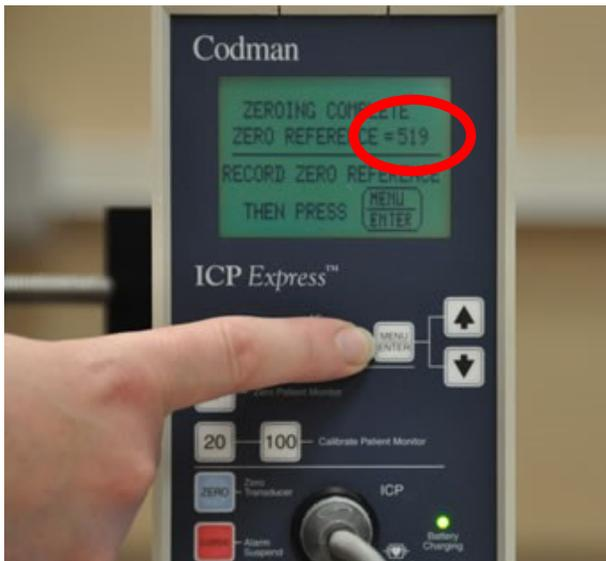

Figure 9: Identify reference code and complete zeroing
- When zeroing is completed, a 3 digit reference number will display (Figure 9).